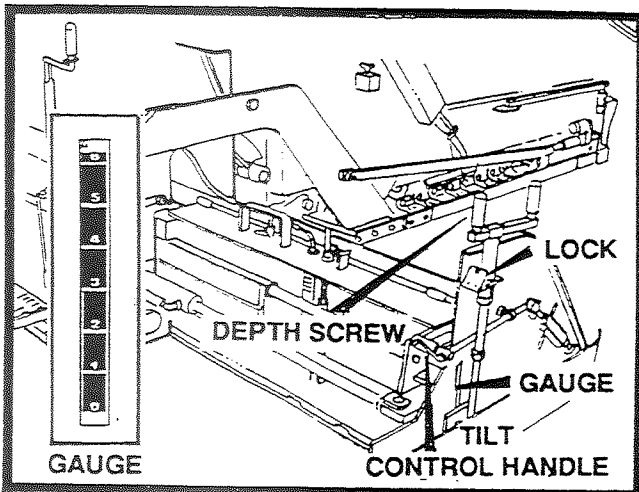

FIGURE 26
1. On first pass unlock depth screws and lower endgate to about 1/4" off desired depth. This should provide a nice square edge. See figure 26.